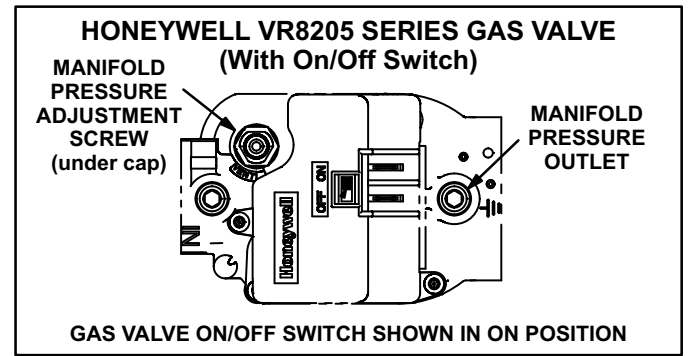

FIGURE 18
Turn knob on gas valve clockwise  to **OFF**. Do not force. See figure 18.
*Honeywell VR8205 Gas Valve with Control Knob - Turn knob on gas valve clockwise  to **OFF**. Do not force. See figure 18.*